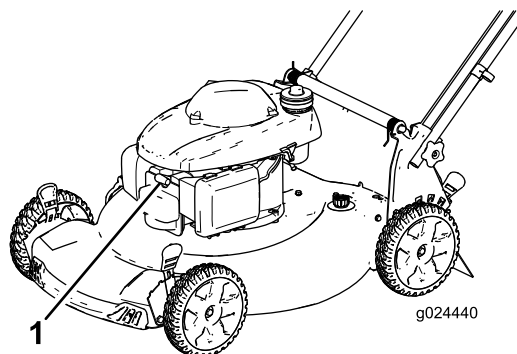

Figure 23
- Disconnect the spark-plug wire from the spark plug (Figure 23).